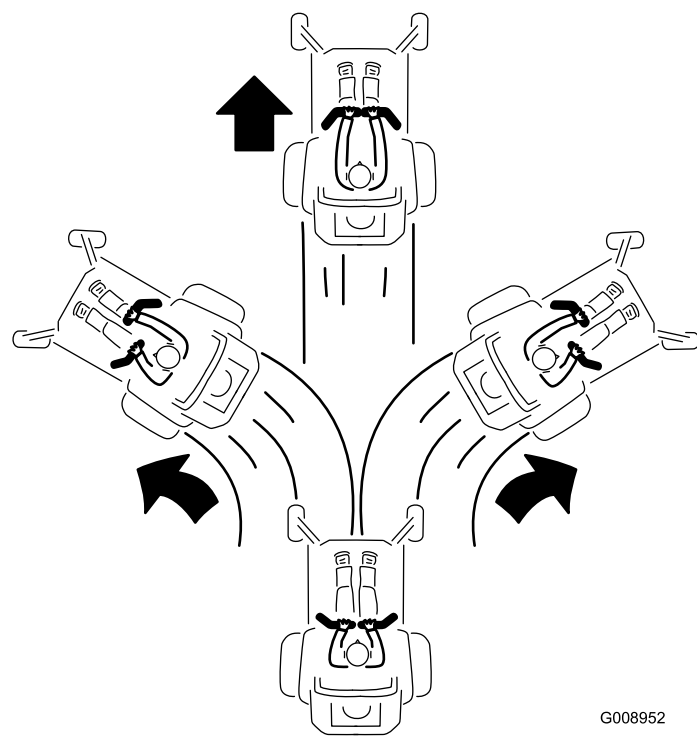

Figure 20
3. To move forward, slowly push the motion-control levers forward (Figure 20).